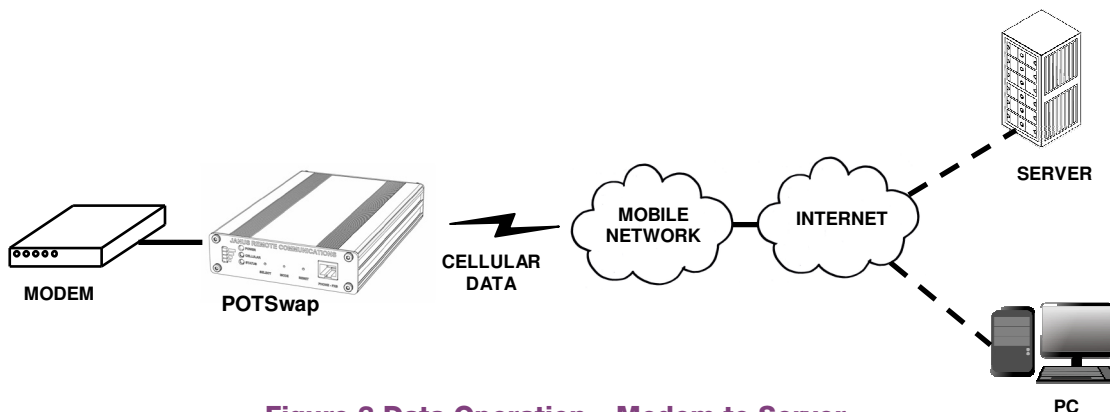

Figure 3 Data Operation – Modem to Server
- Figure 3. Data Operation – Modem to Server